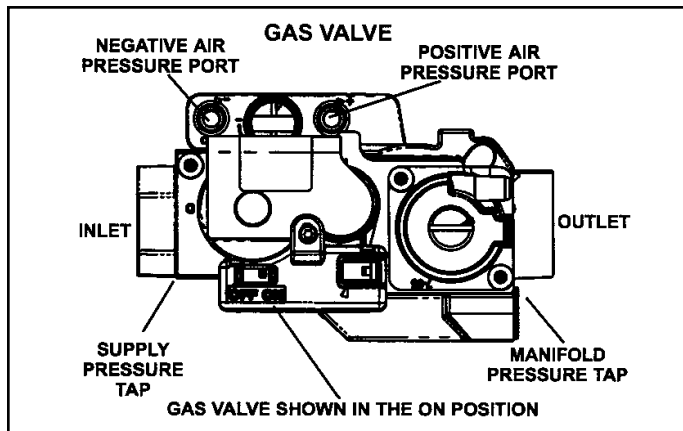

Figure 52.
See Figure 52
6. Move the gas valve switch to the OFF position. See Figure 52.
8. Move gas valve switch to the ON position. See Figure 52. **DO Not force.**